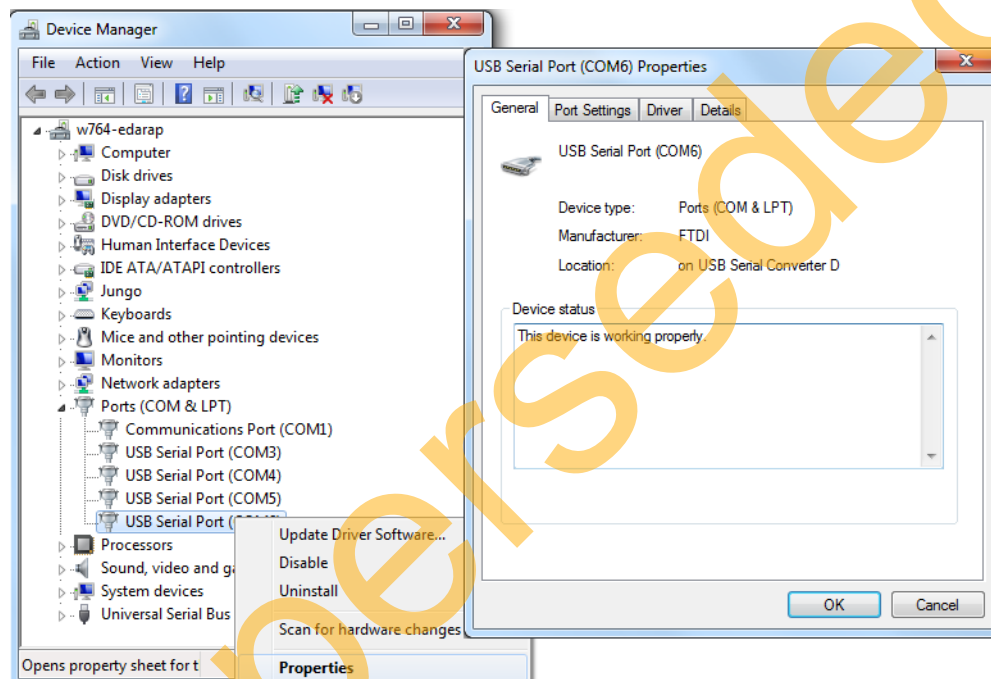

Figure 51 • Device Manager Window
2. Connect one end of the USB mini-B cable to the J24 connector provided on the SmartFusion2 SoC FPGA Evaluation Kit and the other end to the host PC. Ensure that the USB to UART bridge drivers are automatically detected (can be verified in the Device Manager), as shown in Figure 51.
Note: Copy the COM port number for serial port configuration. Ensure that the COM port location is specified as **on USB Serial Converter D**, as shown in Figure 51.